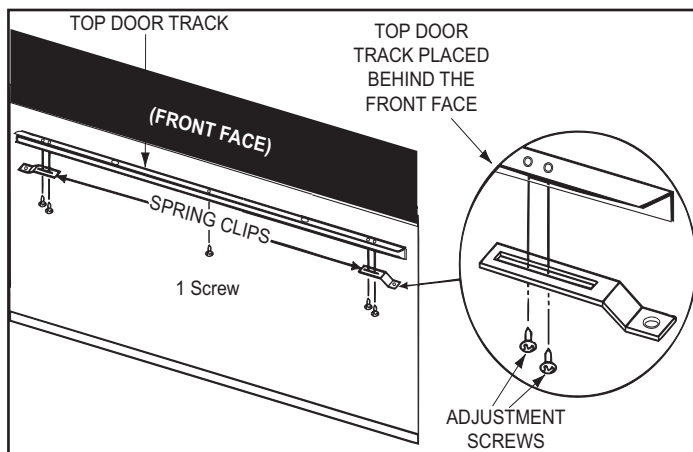

Figure 3 - Spring Clip Placement
- On each end of the top door track, add a spring clip to each end and secure with 2 screws each (they are also adjustment screws), also from fastener pack See Figure 3.